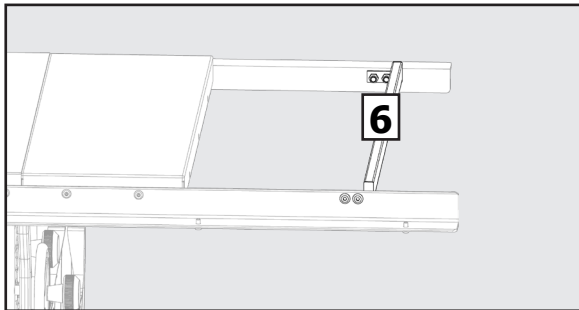

FIGURE 8
1. Attach the extension wings (5) to the Front and Rear rails using four 5/16-18 x 1 1/8-inch flat head screws, 5/16 lock washers, and 5/16-18 hex flange nuts.
2. Attach the extension wings (5) to the table using three 5/16"-18 hex screws with spring washers for each wing. The wings attach from underneath.
5. Attach the spreader bar (6) to the outboard end of the front and rear rails using four M8 x 16 shoulder bolts and M8 nylock nuts. See Figure 8.